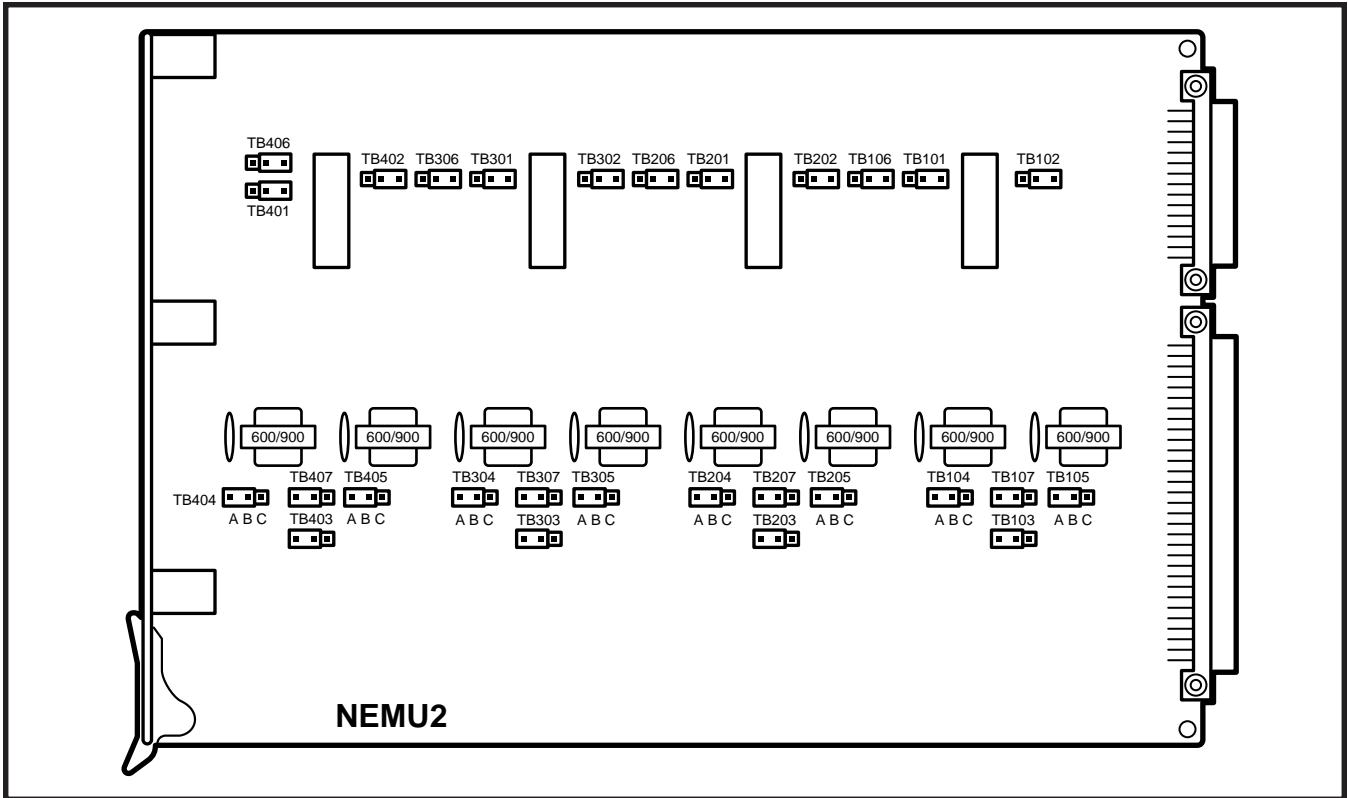

FIGURE 4-18—NEMU STRAPPING
**3.72** There are four circuits on the NEMU PCB, and each circuit has its own set of straps (Figure 4-18). On a circuit-by-circuit basis, strap the PCB as follows: